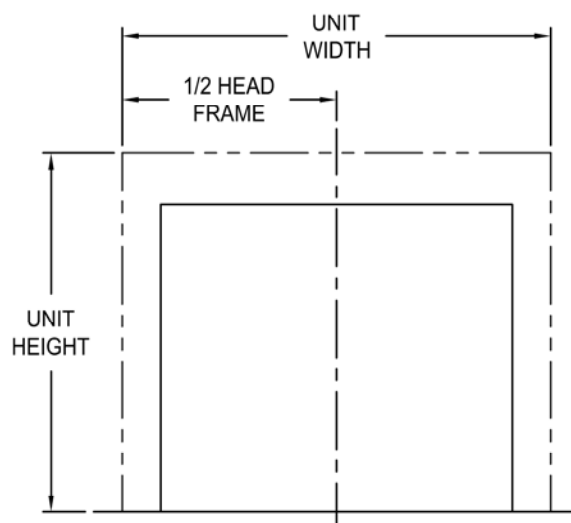
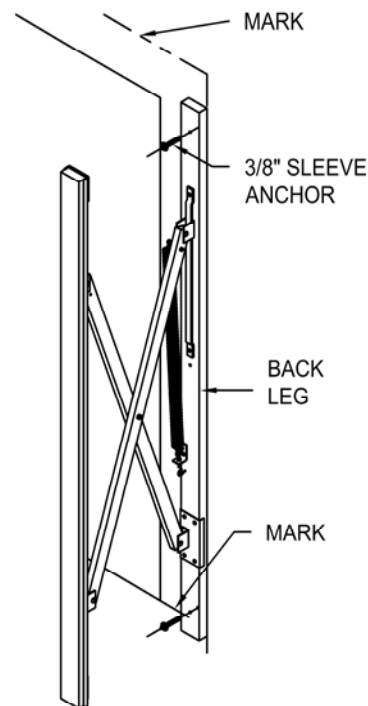

fig. 1
FIG. 6
**Make sure there is enough space to install shelter** (Figure 1 - Standard Unit).
- \* Position vertical frames on wall so that the outside edge is flush with the vertical lines from fig. 1, and that bottom edge is flush with the floor (fig. 6).
- \* Insert 3/8" sleeve anchors and tighten with 1/2" socket wrench (fig. 6).